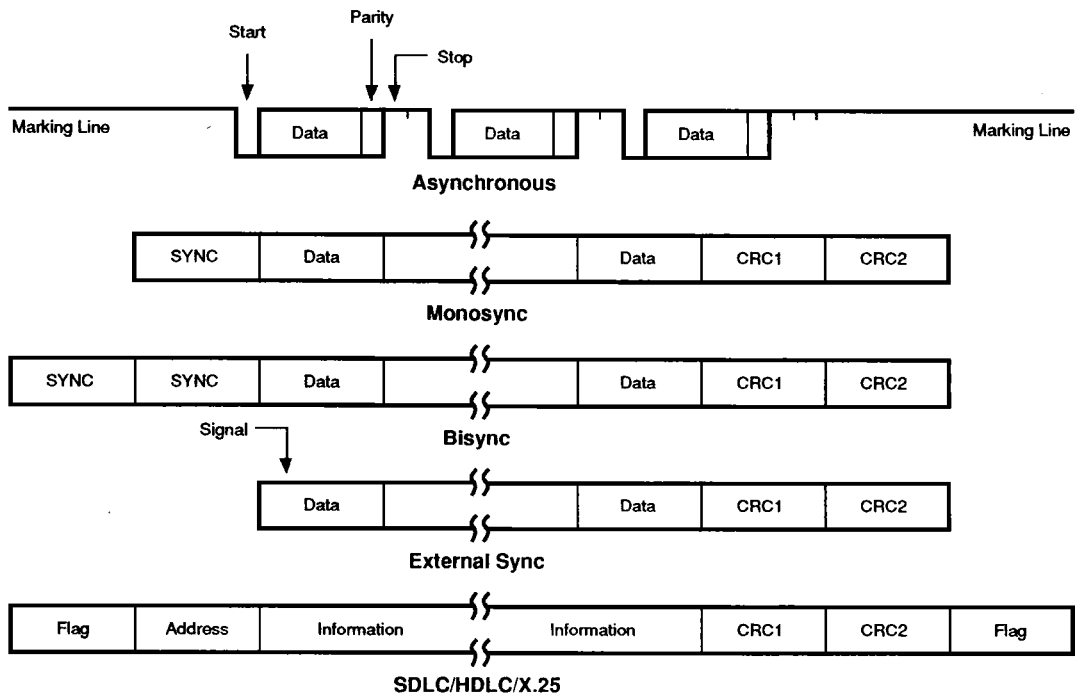

Figure 11. Some SCC Protocols
**/RTSA, /RTSB.** *Request To Send* (outputs, active Low). When the Request To Send (RTS) bit in Write Register 5 (Figure 11) is set, the /RTS signal goes Low. When the RTS bit is reset in the Asynchronous mode and Auto Enable is on, the signal goes High after the transmitter is empty. In Synchronous mode it strictly follows the state of the RTS bit. Both pins can be used as general-purpose outputs.
The SCC provides two independent full-duplex programmable channels for use in any common asynchronous or synchronous data communication protocols (Figure 11). Each of the datacommunication channels has identical features and capabilities.